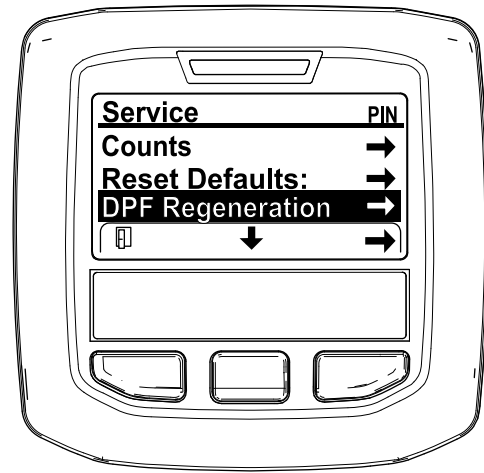

Figure 49
3. In the SERVICE MENU, press the middle button until the DPF REGENERATION options displays, and press the right button to select the DPF REGENERATION option (Figure 49).